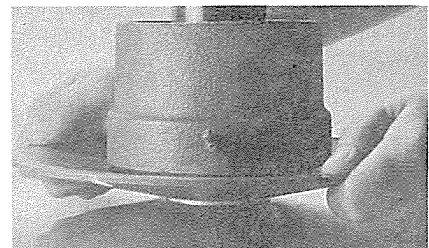

Figure 19
5. Be sure that the o-ring is completely on the steel ring. Guide the ring into the flange, taking care to keep it straight. Press the adjustable flange assembly over the steel ring (Figure 19) until the adjustable flange is seated on the steel ring.